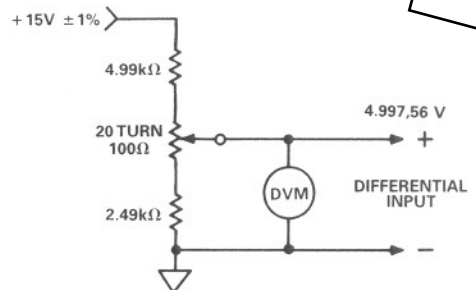

Figure 7. Voltage Divider to Derive  $R_{TO}$   $V_{OS}$  and Span Calibration Voltage
2. Connect the plus input to ground and the minus input to 4.997,56 volts using a voltage divider such as in Figure 7.